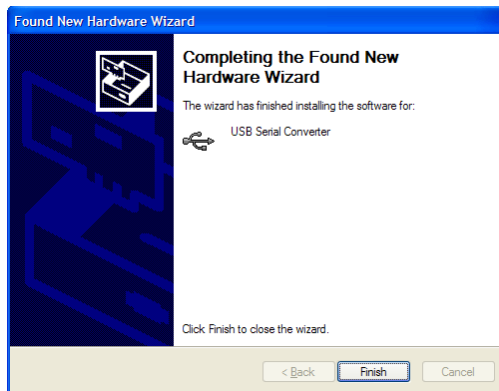

Figure 9
5. Wait a few moments while Windows downloads and installs the drivers from Microsoft®. Then click on “Finish”. (Figure 9)